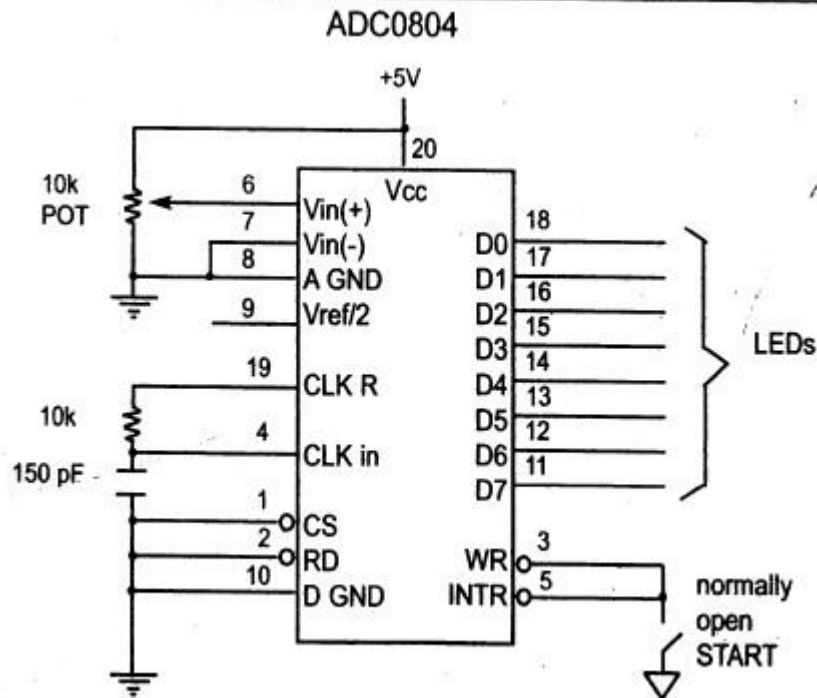

Figure 5.5 ADC804 Chip (Testing ADC804 in Free Running Mode) ○
- In ADC804 conversion time varies depending on the clocking signals applied to the CLK R and CLK IN pins, but it cannot be faster than 110μs. ○ Figure 5.5 Pin out of ADC804 in free running mode. ○ The following is the ADC804 pin description.